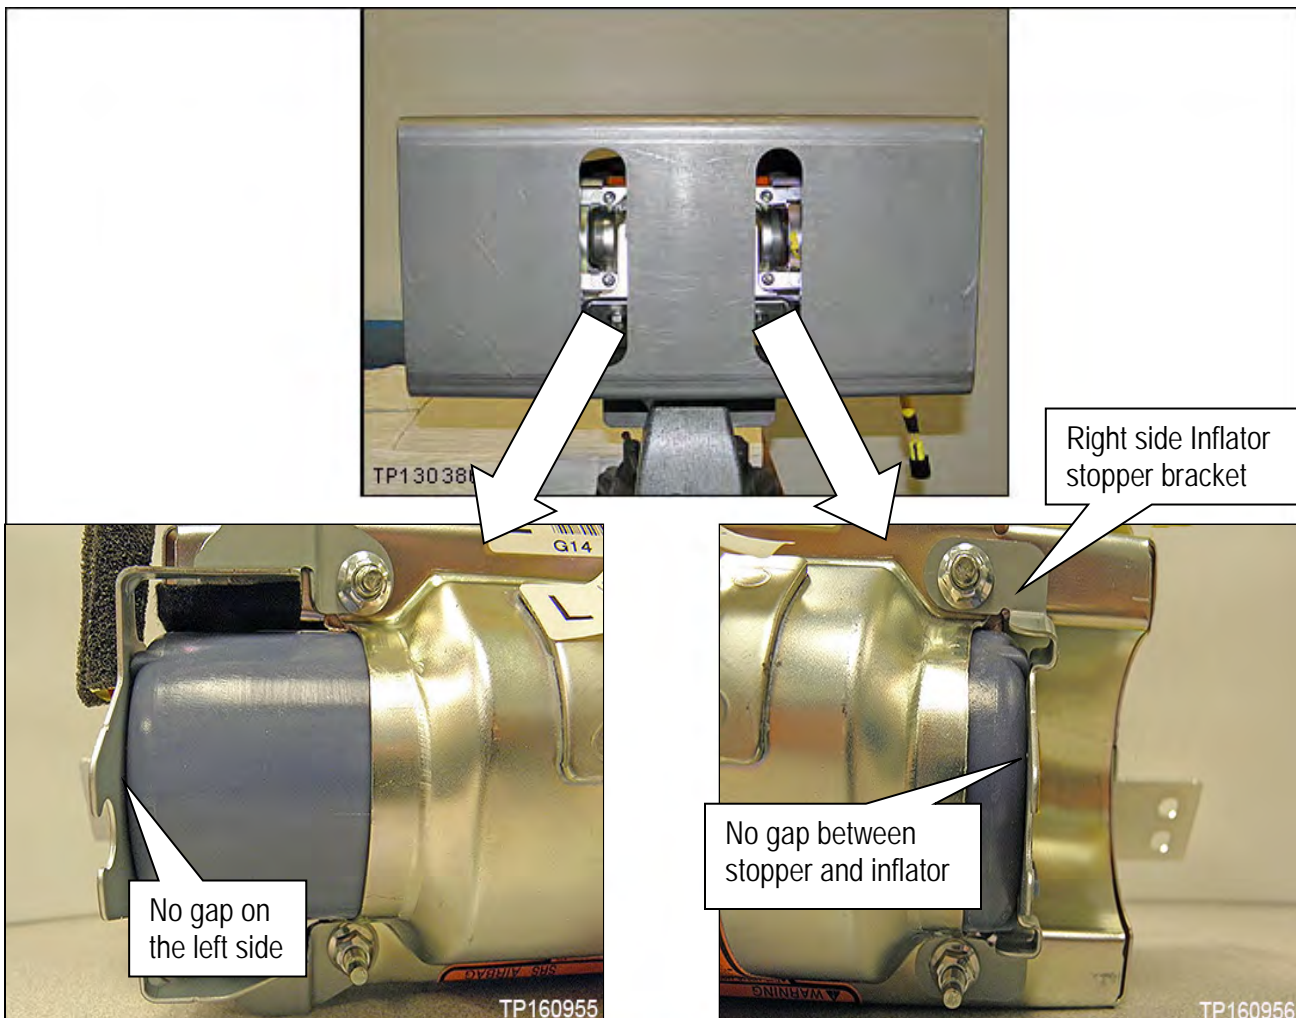

Figure 30
- Make sure the inflator is pushed all the way into its housing – no gap on the left side (see Figure 30).
- Make sure there is no gap between the inflator stopper bracket and the inflator on the right side (see Figure 30).